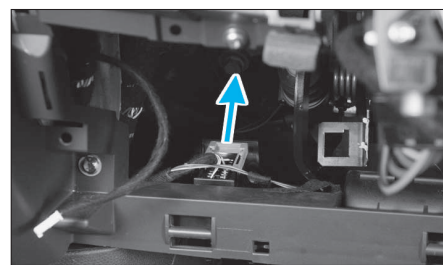

FIG. 15
- la prise diagnostic (Fig.15).